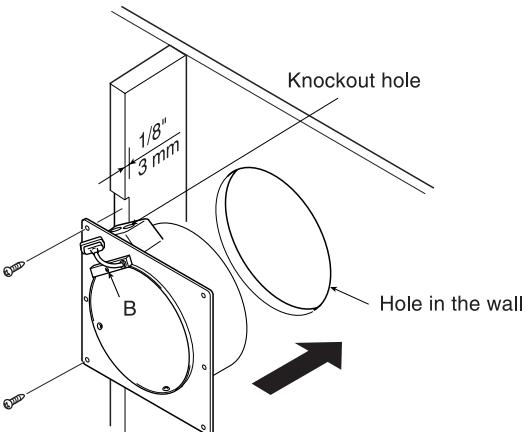

Fig. 3
- After providing a 3 mm notch in the wall stud, secure the flange to the wall stud with supplied screws (Screw I). (Fig. 3)
- Remove the junction box cover by removing screw (B).